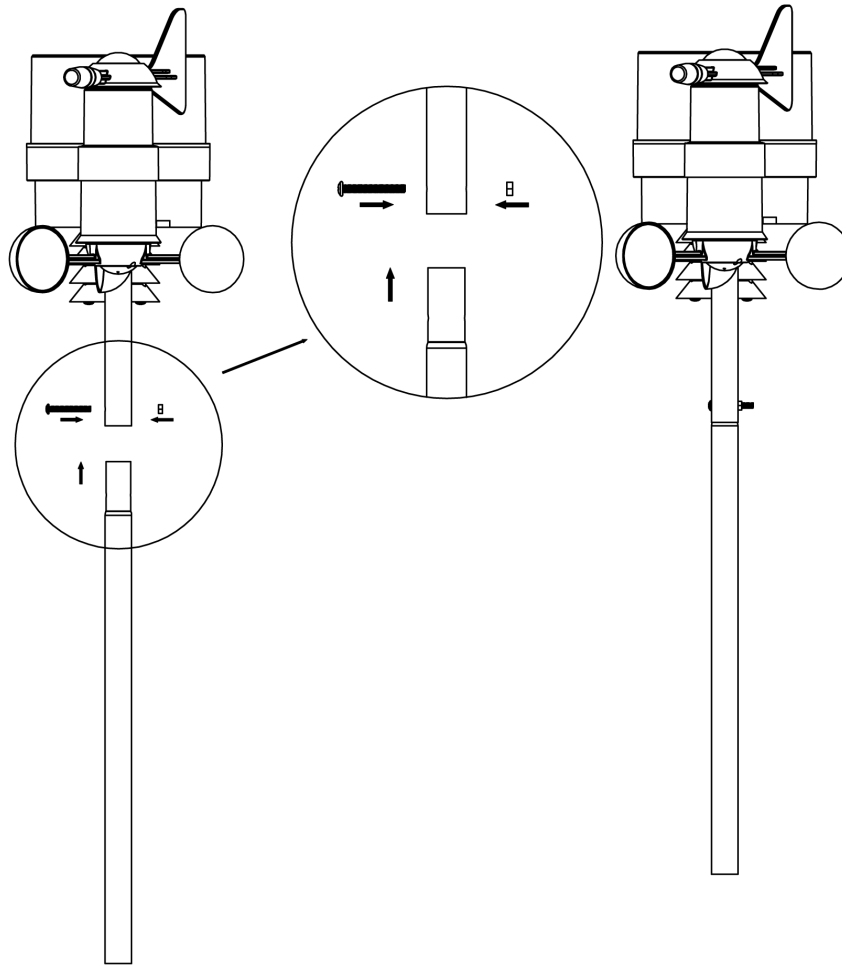

Figure 6
3. Attach the mounting pole extension with the extension pole, nut and bolt, as shown in Figure 6.